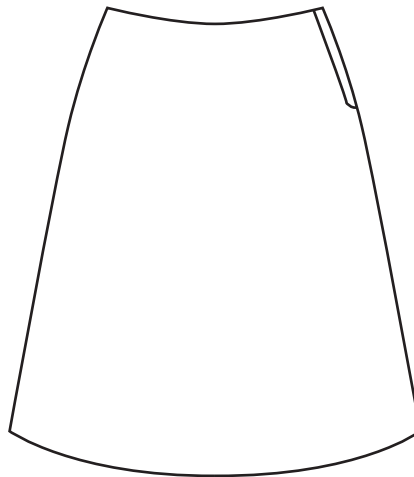
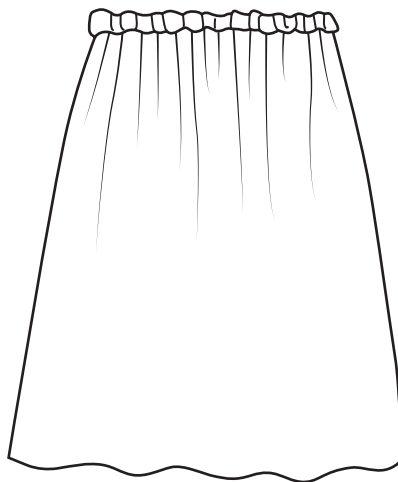

Fig. 6.1
Fig. 6.2
- 6 Fig. 6.1 is a drawing of a skirt with a faced finish to the waistline.
- (a) (i) The waistline of the skirt in Fig. 6.1 is finished with a shaped facing. Explain the correct order of work to apply the shaped facing to the skirt waistline. You may use diagrams to support your answer.
Fig. 6.2 is a drawing of an elasticated waist skirt.
- (b) Compare the faced waistline skirt in Fig. 6.1 with the elasticated waist skirt in Fig. 6.2. Consider suitable fabrics and how the skirts would be made and worn.